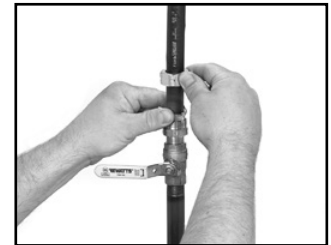

Fig. 4-13
STEP 4 POSITION BUSHINGS (FIG. 4-13)